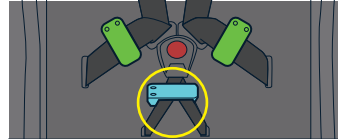

FIGURE 1.3
- Pass the crotch buckle straps through the buckle guide. The crotch buckle should rest no more than 10mm past the buckle guide. Please see **Page 17** if you need to adjust crotch buckle strap length. (See **Figure 1.3**).